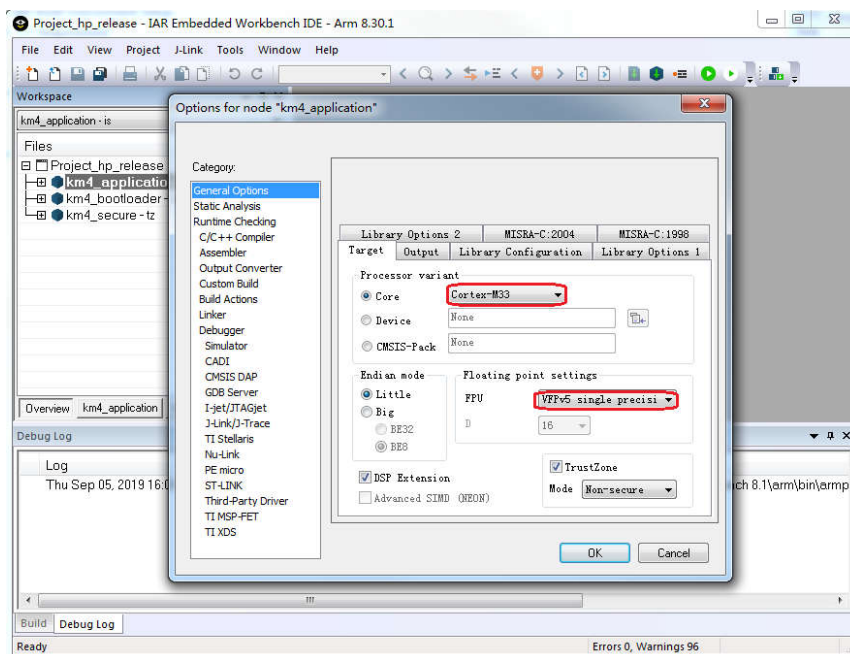

Fig 1-9 KM4 processor options
- (1) Open project\realtek_amebaD_va0_example\EWARM-RELEASE\Project_hp_release.eww.
- (2) Refer to 1.3.1 and choose the build configurations for each project according to your application.
- (3) Click **Project > Options, General Options > Target > Processor Variant > Core**, verify the CPU configurations according to Fig 1-9.